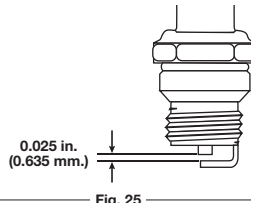

Fig. 25
3. Replace a cracked, fouled or dirty spark plug. Set the air gap at **0.025 in. (0.635 mm)** using a feeler gauge (Fig. 25).